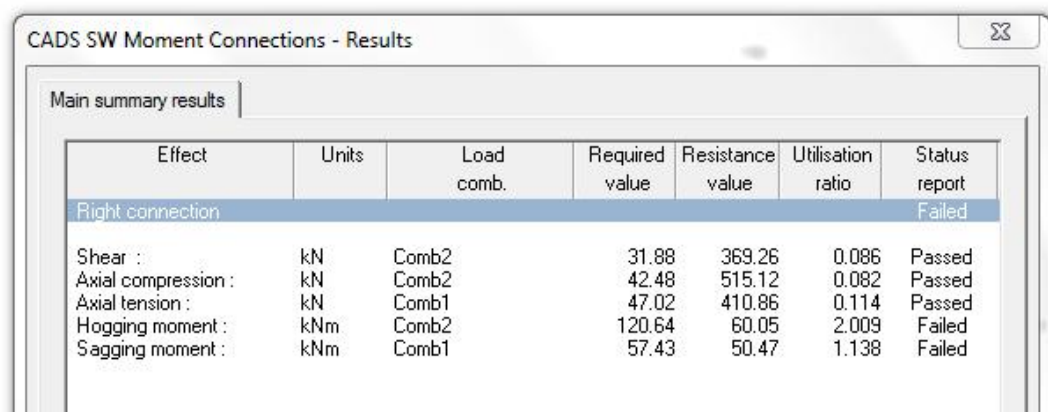

Fig 4.20 Summary results for unstiffened compact end plate connection.
- Having checked the loads and combinations data, select *Analysis calculations*. The summary results appear as shown in fig 4.20.